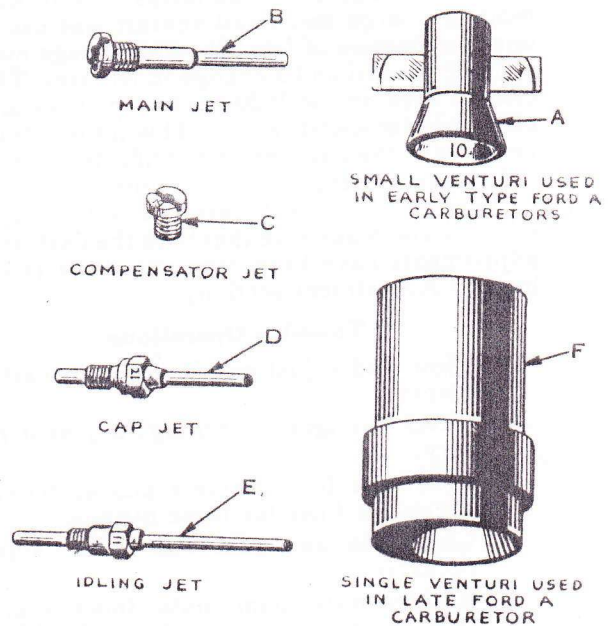
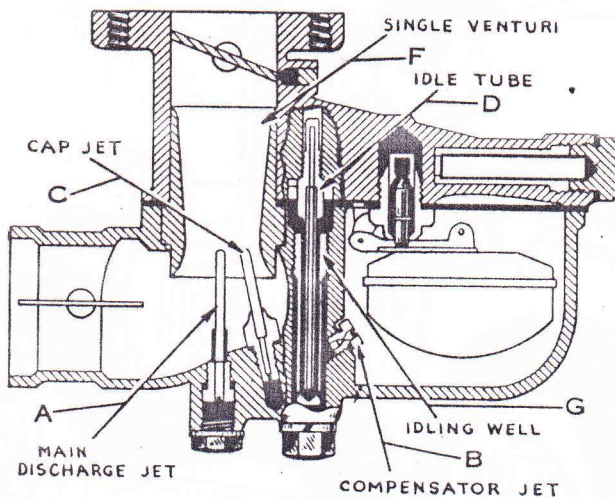

Fig. 3
Fig. 4
The jets used in all Model A Ford carburetors are as follows: Main jet (B) Fig. 3; compensator jet (C); cap jet (D) and idling jet (E). In the early model carburetors the main jet (B) was stamped 20. The compensator jet (C) was stamped 18; the cap jet (D) was stamped 19 and the idling jet (E) was stamped 10. These numbers stamped on the jets indicate the size of the jets in wire drill dimensions.
Two changes have been made in Ford Model A carburetors to date. The first change included the replacing of the double venturi by a longer single venturi, the narrowest part of which is 27/32" in diameter as shown at (F) Fig. 3. In addition, a secondary well (G) Fig. 4 was added. This well is screwed into the lower half of the carburetor as shown in the illustration and forms the well from which the idling jet derives its supply. A slight change was also made in the angle of the throttle plate and the plate was stamped No. 18½ instead of No. 20 as in the early models. The location of the cap jet in the lower half of the carburetor was also slightly changed.